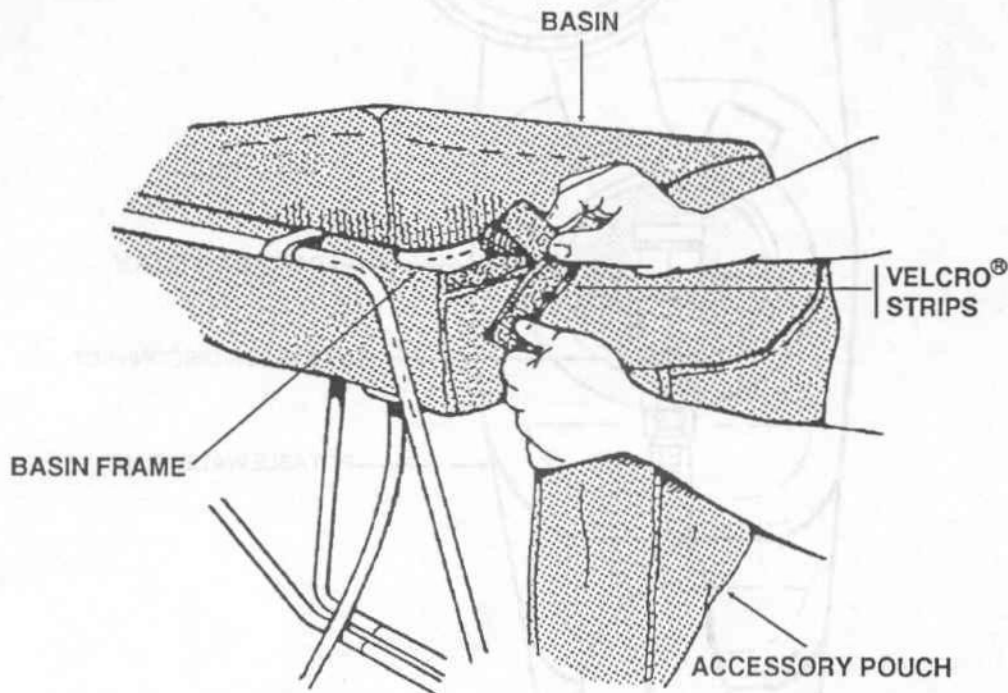

Figure 2-14. Accessory pouches installation.
k. Open the VELCRO® strips holding the left side of the basin to the frame. Observe that two VELCRO® strips are now visible with one positioned above and one positioned below the basin frame. Attach the VELCRO® strip on the back of the accessory pouch to the lower VELCRO® strip on the basin. Now fold the upper VELCRO® strip on the basin downward and fasten it to the VELCRO® strip on the front of the accessory pouch. This step is illustrated in figure 2-14.